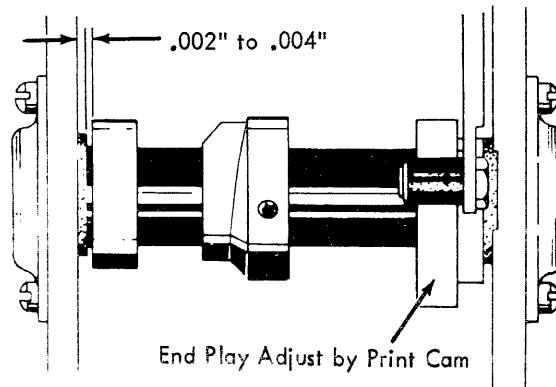

FIGURE 53. Print Sleeve End Play
8. Print Sleeve End Play - Adjust the print sleeve end play to be .002" to .004". The end play is controlled by the print cam on the right hand end of the sleeve. The adjustment should not be gained with the ribbon lift cam because its set screw tightens down into a dimple in the print sleeve fixing the position of the cam (Fig. 53).